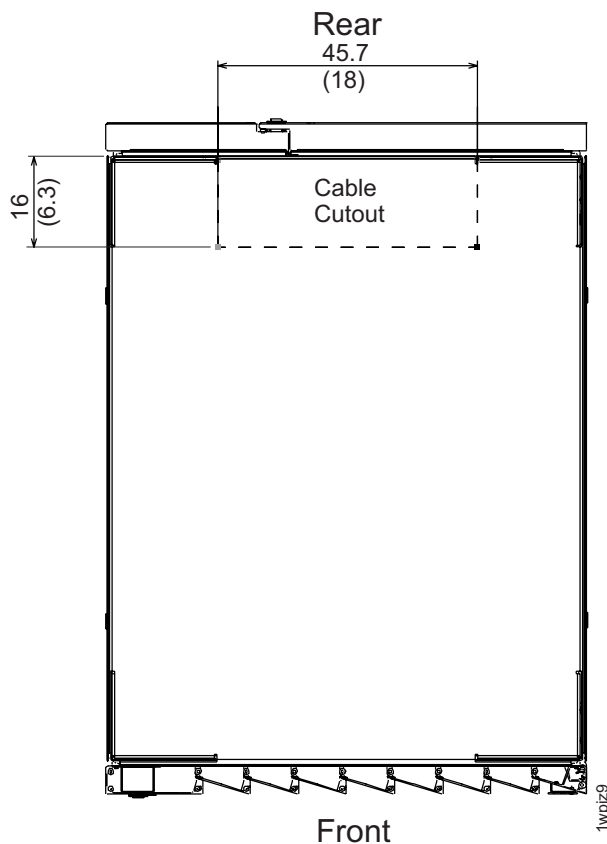

Figure 19. Cable cutouts for a DS8000 unit.
1. Based on your planned storage unit layout, ensure that you can accommodate the locations of the cables exiting each unit. For the DS8000 series, see Figure 19 for the location of the cable cutouts.